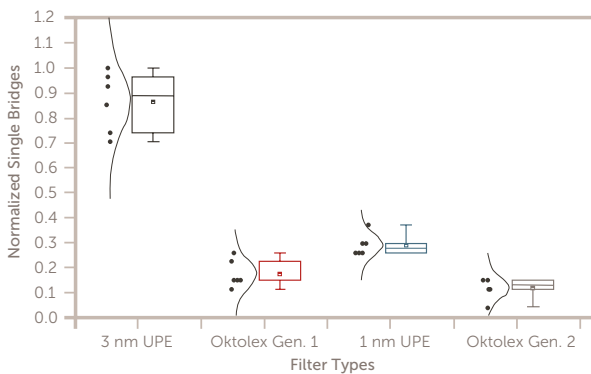

Figure 4. Normalized single bridge count/wafer, arranged by experimental group.
While residues are clearly triggered by membrane pore size, micro-bridges are not. The normalized count of single bridge is reported in Figure 4. In the case of native membranes, the amount of micro-bridges is triggered by pore size shrinking. However, the Oktolex Gen. 2 filter performs similarly to native and Oktolex Gen. 1.
The benefit of the GAA structure on electrostatics is obvious when comparing to finFETs: excellent drain induced barrier lowering (DIBL) and subthreshold slope saturation (SSSAT) values are measured down to the smallest patterned gates measured (LG = 40nm). The improved electrostatics for the LG = 40 nm devices are reflected in the ID-VG characteristics, where only the GAA devices can reach the high performance (HP) off-state current target of 100 nA/μm (Fig. 4).
Figure 4. Short-channel (LG = 40 nm) drain-source and bulk current versus gate voltage for Ge GAA and Ge fin devices from.4 All currents are normalized toward the effective channel width (30 nm for Ge GAA and 60 nm for Ge fin). Continuous lines at -0.5 V VDD and broken lines at -50 mV VDD.